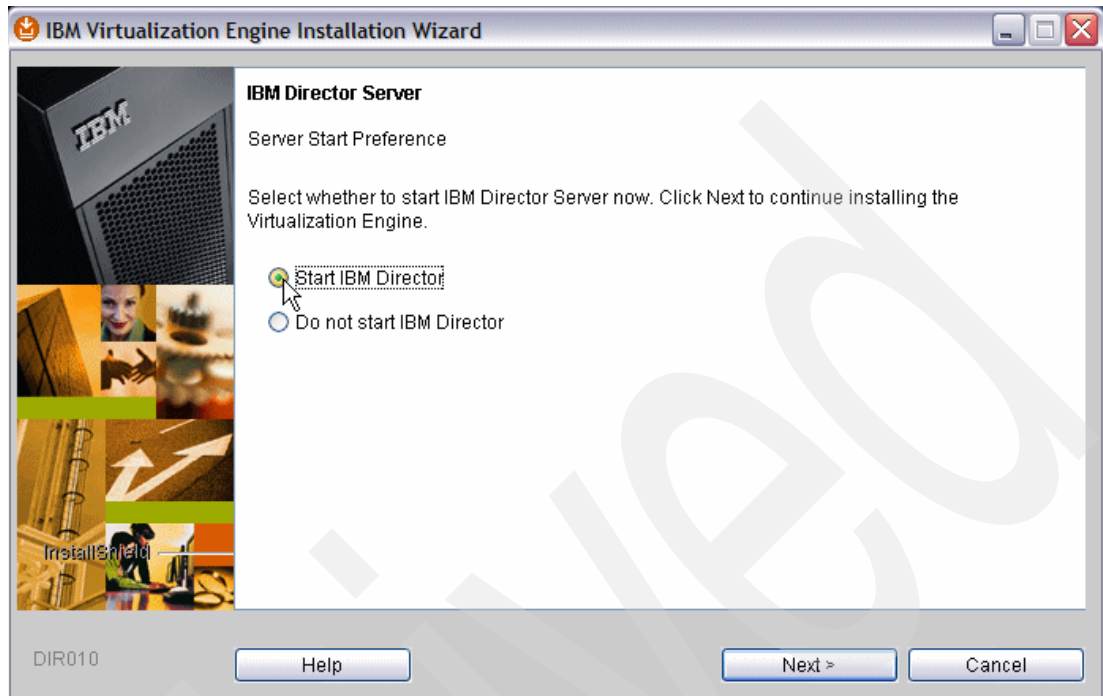

Figure 5-26 Server Start Preference window: Select Start IBM Director
21. On the Server Start Preference window (Figure 5-26), select **Start IBM Director** to indicate to start IBM Director Server when the installation is complete. Click **Next**. This